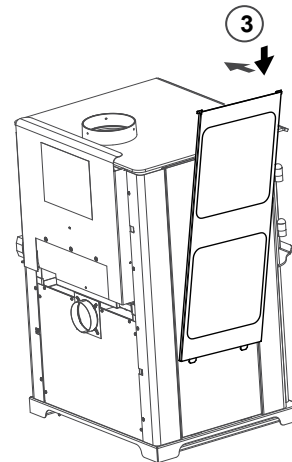

Figure 24.6
4. Reattach tile frame (Figure 24.6).